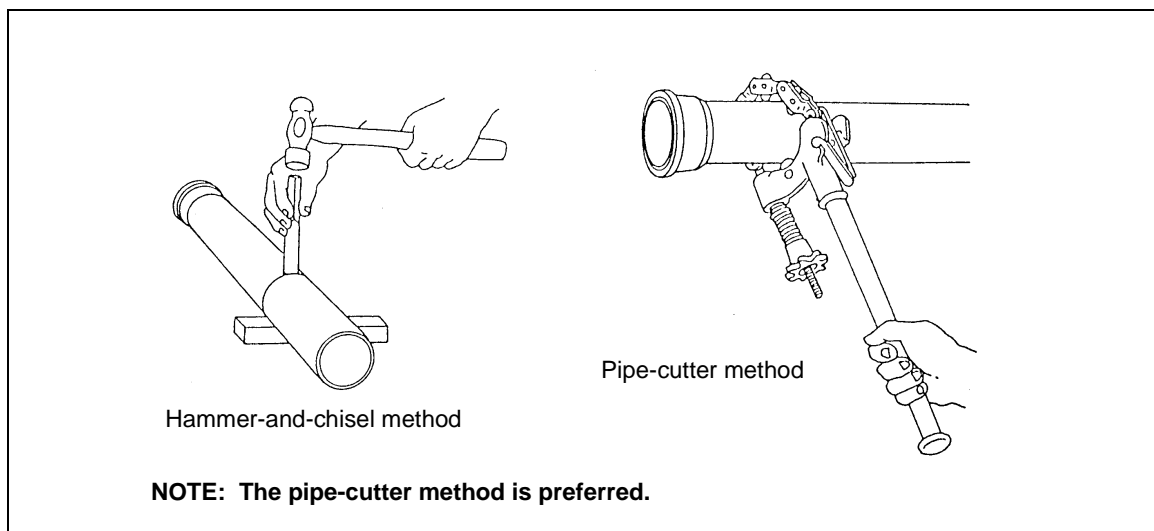

Figure 6-13. Cutting Cast-Iron Soil Pipe
- **Soil-pipe cutter.** Set the pipe in a vise and position the cutting wheels on the mark by turning the adjusting knob. Apply pressure on the handle until the pipe is cut. Use the adjusting knob to keep a good bite on the pipe (*Figure 6-13*).
- **Hammer and cold chisel.** Place the pipe on a board or mound of dirt at the point to be cut. Then place the chisel's cutting edge on the mark and hit it lightly with the hammer while rotating completely around the pipe. Continue scoring around the pipe using harder blows until the pipe is cut (*Figure 6-13, page 6-13*).